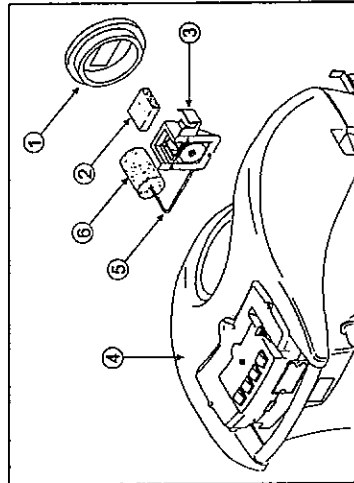

Fig. 15
While washing the recovery tank never remove the suction filter (fig. 15, ref. 2) from its seat and never direct the jet of water towards the filter itself.
- Unscrew and take off the tank cap (fig. 15, ref. 1) from the recovery tank (fig. 15, ref. 4);
- make sure that the recovery tank (fig. 15, ref. 4) is empty;
- take out the air filter (fig. 15, ref. 2) of the suction unit from the float support (fig. 15, ref. 3), which is located on the upper inner side of the recovery tank;
- check that the floating rod (fig. 15, ref. 5), which is also fixed to the support (fig. 15, ref. 3), moves freely and clean it, if necessary;